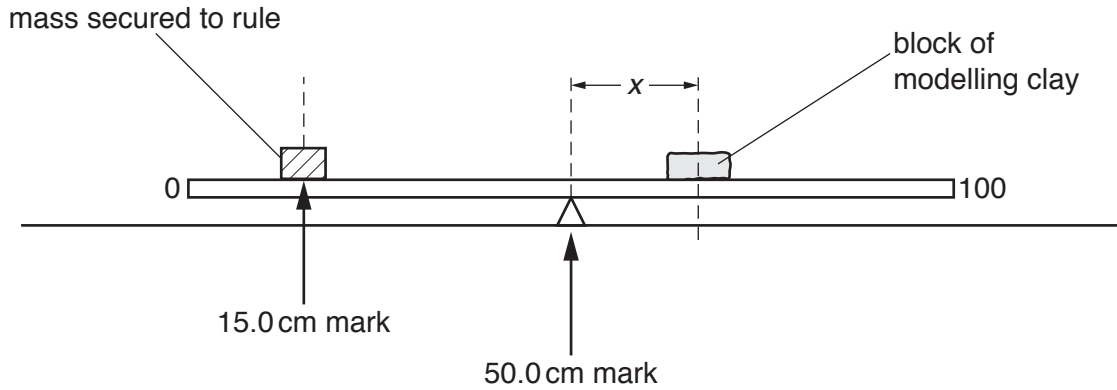

Fig. 5.2
- Place the pivot under the 50.0 cm mark on the metre rule, as shown in Fig. 5.2.